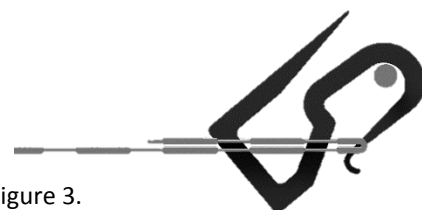

Figure 3
- Suspend the roof blind on the cord with the fabric hooks as shown in Figure 3.